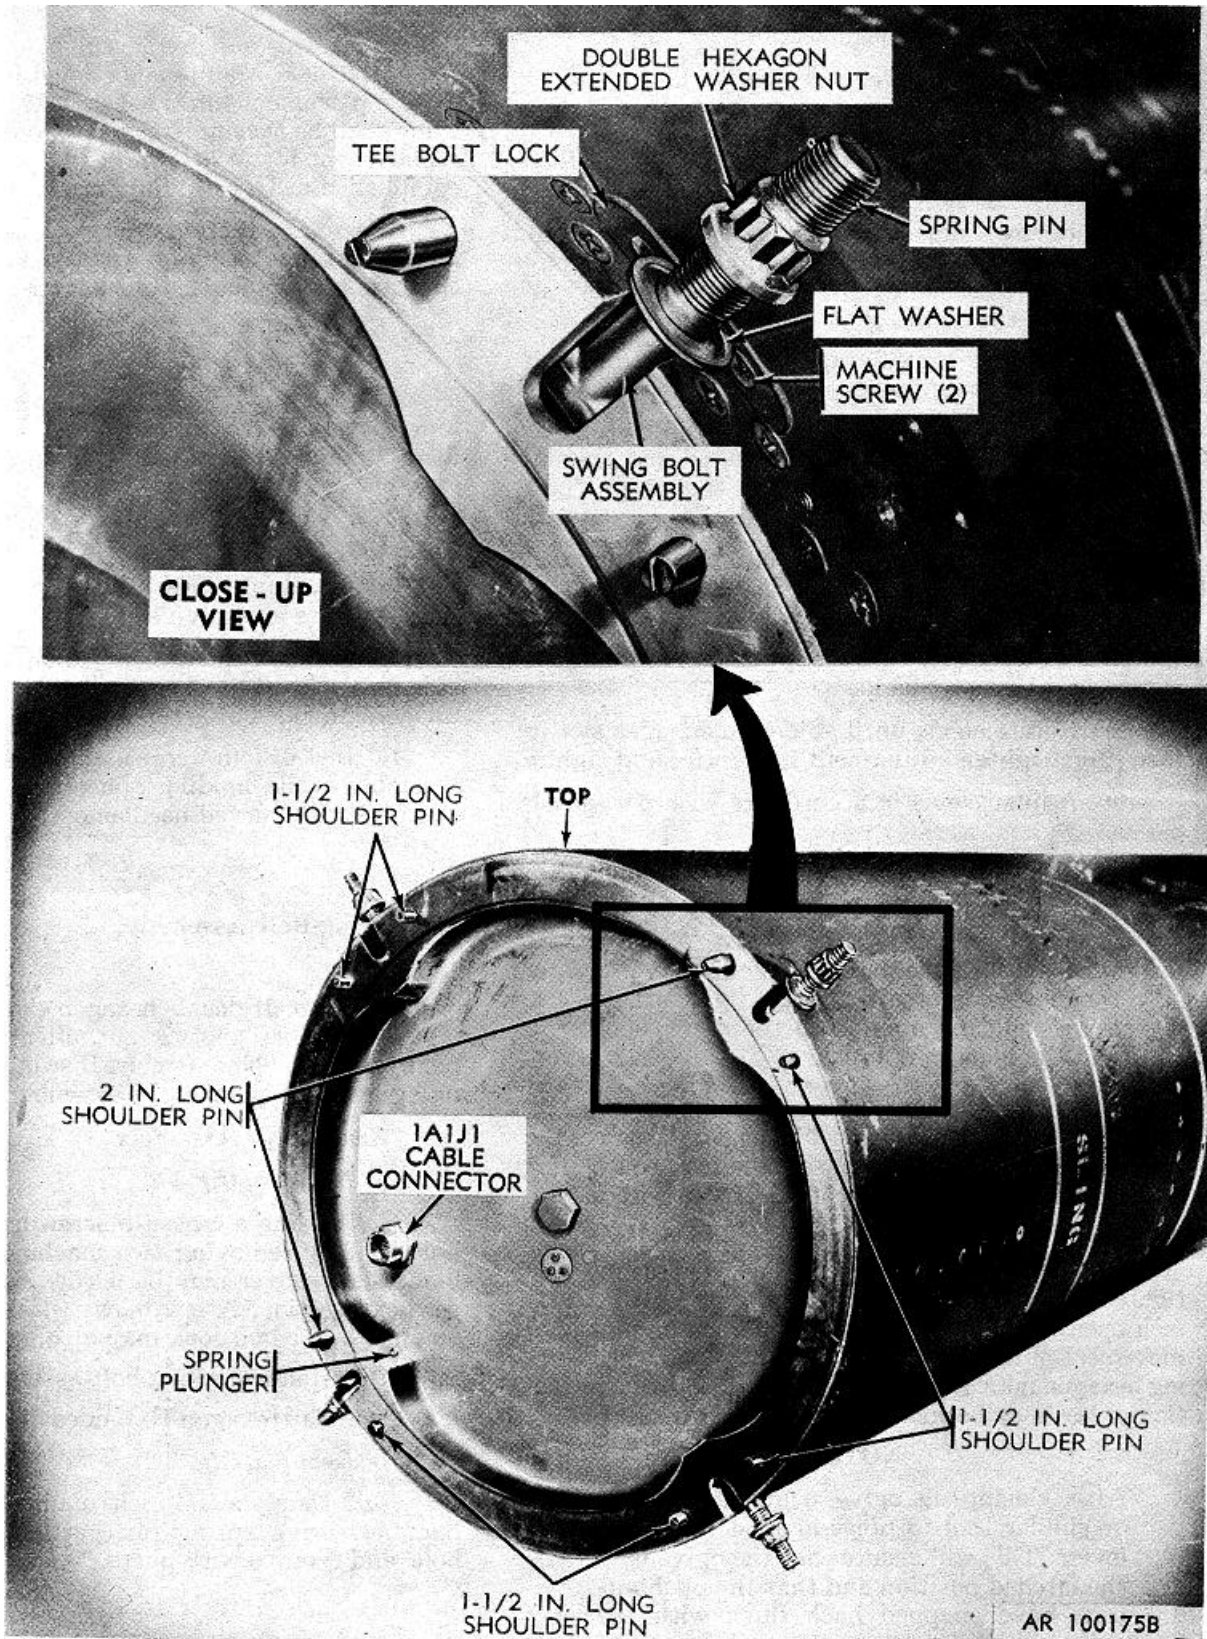

Figure 3-2. Aft ring assembly.
(1) Removal (fig 3-2).
(1) Removal (fig. 3-2).
a. *Removal.* Using a 1/16-inch hexagon-head screw key, turn spring plunger (fig. 3-2) counterclockwise until spring plunger can be removed. If spring plunger is frozen or cannot be easily removed, do not apply excessive force. Notify support unit.
b. *Installation.* Place light film of silicone compound (G-697) on the threaded body of the spring plunger. DO NOT allow compound on the plastic tip. Install spring plunger (7, fig. C-2) into threaded opening on side of aft ring (fig. 3-2) and turn clockwise with a 1/16-inch hexagon-head screw key. Turn until resistance is felt and swingbolt assembly can be turned to any position without swinging too freely. Wipe excess compound from aft ring. Test resistance by setting bolt at approximately  $45^\circ$  from fully swung-out position and releasing it. If bolt remains in this position, resistance is correct.
a. Tighten loose headless shoulder pins (fig. 3-2) on aft ring assembly of warhead section with a flat-blade screwdriver.